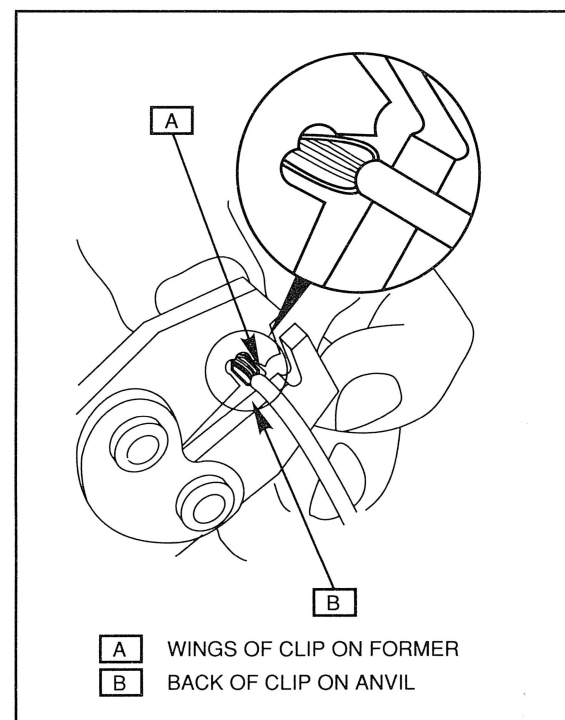

Figure 8 - Crimping the Splice Clip
- Make sure that the clip and wires are still in the correct position. Then, apply steady pressure until the crimping tool closes (Figure 8).